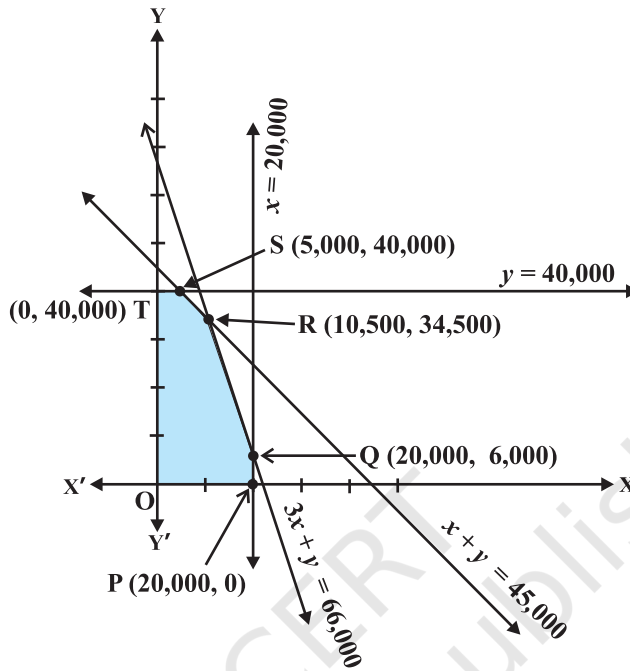

Fig A.2.3
Step 3 The shaded region OPQRST is the feasible region for the constraints (1) (Fig A.2.3). The co-ordinates of vertices O, P, Q, R, S and T are (0, 0), (20000, 0), (20000, 6000), (10500, 34500), (5000, 40000) and (0, 40000), respectively.